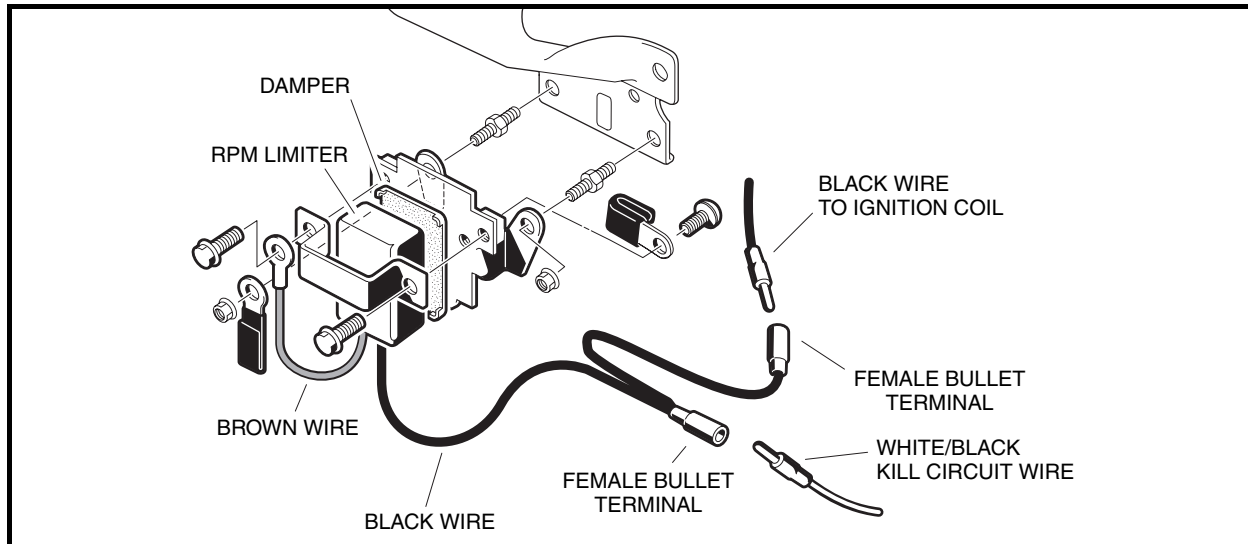

Figure 12-23 RPM Limiter Assembly
2. Disconnect the white/black wire from the black wire at the bullet connector located near the RPM limiter (**Figure 12-23, Page 12-24**).
4. Remove the flange-head bolts from the RPM limiter band and remove the RPM limiter and the damper (**Figure 12-23, Page 12-24**).
1. Place the RPM limiter damper on the front of the RPM limiter mounting bracket (**Figure 12-23, Page 12-24**).